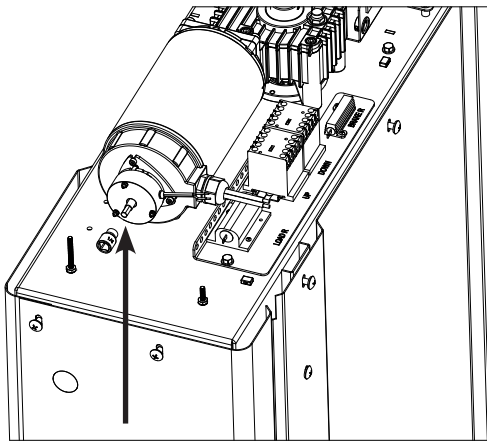

Figure 6-10
6. Use the provided $\frac{1}{4}$ " socket with a $\frac{3}{8}$ " ratchet or a cordless drill. Power the drill in the forward direction - rotating clockwise to lower the platform. *See Figure 6-10.*